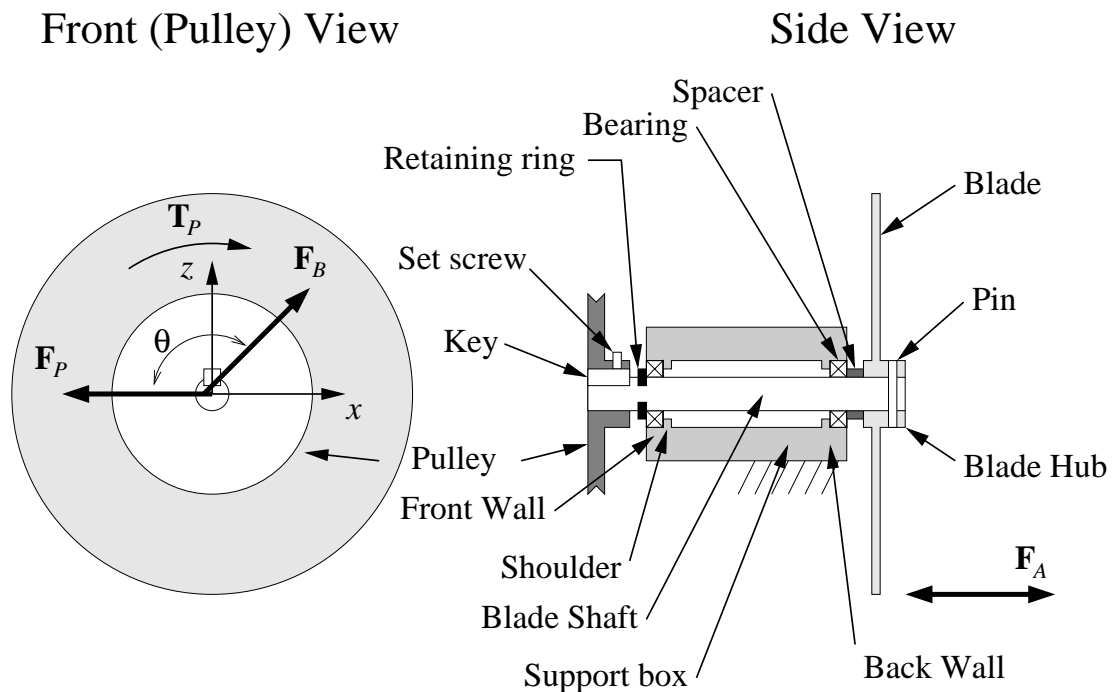
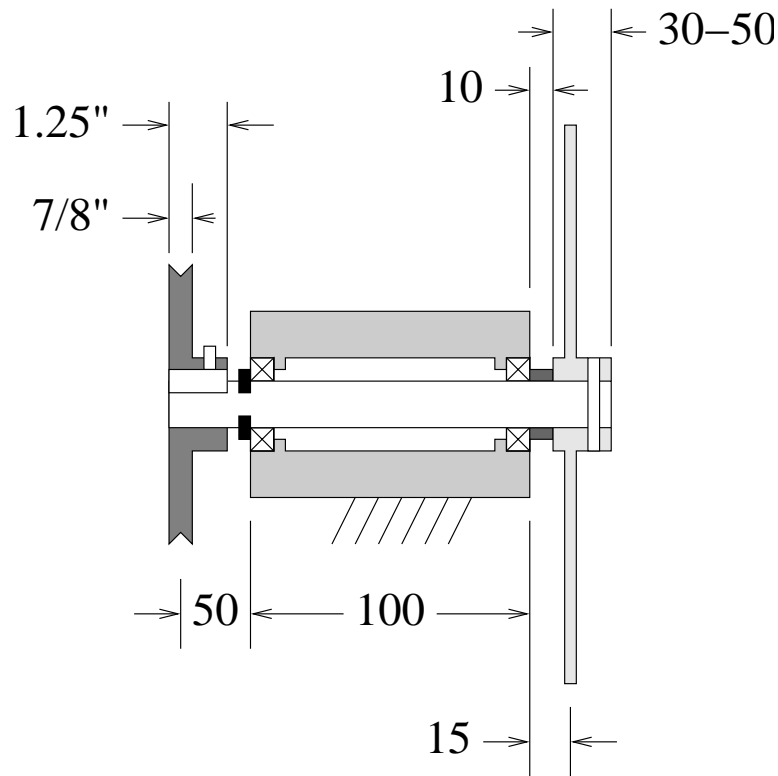

Figure 1: Chop Saw Blade Shaft Layout and Loading(Not to scale)
Figure 2: Dimension Sketch (not to scale)
A side view of the general layout is shown in Figure 1 below. The **front and back walls** of the **support box** provide support to the **blade shaft** via sealed **bearings**, which fit against **shoulders** in the walls. The shaft passes through both housing walls, connecting the **blade** at the back to the **pulley** at the front. The marketing team wants us to consider a blade that is connected to the shaft by a **pin** through its central **hub** (their idea is that it would speed replacement and that we could also sell the special saw blades as another product line). Axial motion of the shaft is resisted from the blade side by a **spacer**, confined between the pinned blade hub and the bearing in the back wall, and by use of a **retaining ring** at the pulley side. The shaft transmits torque to the pulley via a **key**. Because the belt nominally acts perpendicular to the shaft, the relatively small axial loads on the pulley are resisted via a **set screw**.
The dimensions (in millimeters, unless otherwise specified) are shown in Figure 2 below. At the front end of the shaft, there is a pulley with a 3" pitch diameter. The shaft extends far enough from the front wall that the pulley can be installed flush with the back end of the shaft. Based on the loads calculated in your previous design, combined with the weight of the pulley, the total load of the pulley on the shaft when operating at the rated speed of 4,600 RPM is $\mathbf{F}_P = 130.7 \text{ N}$. In addition to this force, the belt drive system imparts a torque on the pulley (as you calculated in your previous design) of $\mathbf{T}_P = 1.548 \text{ Nm}$. At the back end of the shaft (the blade side), the blade provides an equal and opposite torque to the shaft of $\mathbf{T}_B = 1.548 \text{ Nm}$, as well as a total force of $\mathbf{F}_B = 42.8 \text{ N}$, acting at a relative angle of $\theta = 111.4^\circ$ with respect to the pulley force direction, as shown in Figure 1. We would also like you to consider the possibility that the blade might be slightly misaligned, causing a $\mathbf{F}_A = \pm 10 \text{ N}$ axial load at the bottom of the blade (8" diameter, as in your previous design work).
1. Calculate and report the reaction loads at the bearings (all directions, using the coordinate system defined in Figure 1).